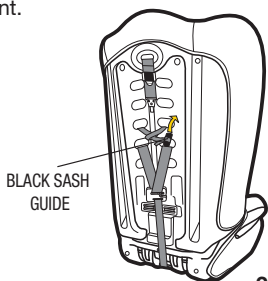

Figure 4
Step 6: Pass the shoulder belt through the belt sash guide (refer Figure 3) which is fastened to the restraint by a webbing strap. Adjust the position so that the shoulder belt lies comfortably over the child's shoulder (Refer Figure 4). Adjust to the required length.